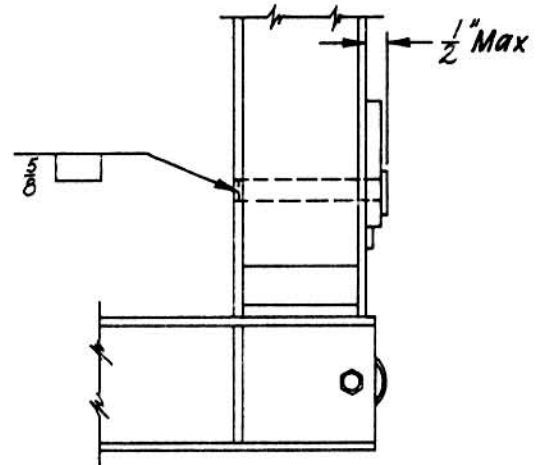

FIGURE 3
4. Install shaft and latch in beam per Fig. 3 & 4. Allow .015" total clearance between latch and beam. Plug weld shaft to beam flush on inside beam flange, see Fig. 3.
5. Install 3/8" Square Head Bolt, and tack weld to beam. See Fig. 3 & 4.